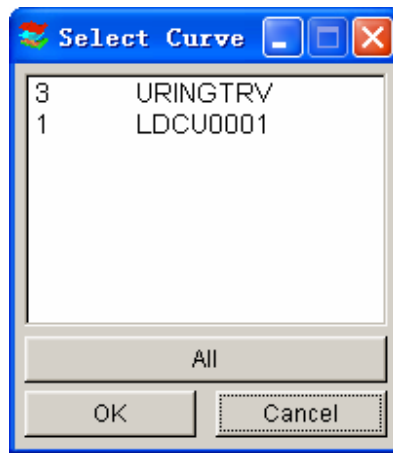

Figure 11.11.3 The Select Curve dialog window.
- Select a curve listed in the SELECT CURVE dialog window as shown in Figure 11.11.3. The user can select all curves by selecting the ALL button. The user can select several curves by holding down the CTRL or SHIFT key and then clicking on the OK button to confirm the selection.